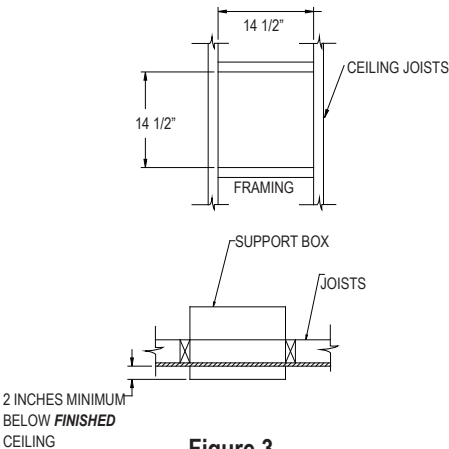

Figure 3
- 2. Frame Support Opening:** Drop a plumb bob to the center of the appliance's flue outlet and mark this center point on the ceiling. Refer to Table 2 for specific framing and clearance dimensions. Mark appropriate cutting lines around the center point. Cut a square hole in the ceiling for a Square Support Box, or a round hole for a Round Support Box. Frame a level, square opening centered over the hole which you have cut. **(Figures 3 and 4).**